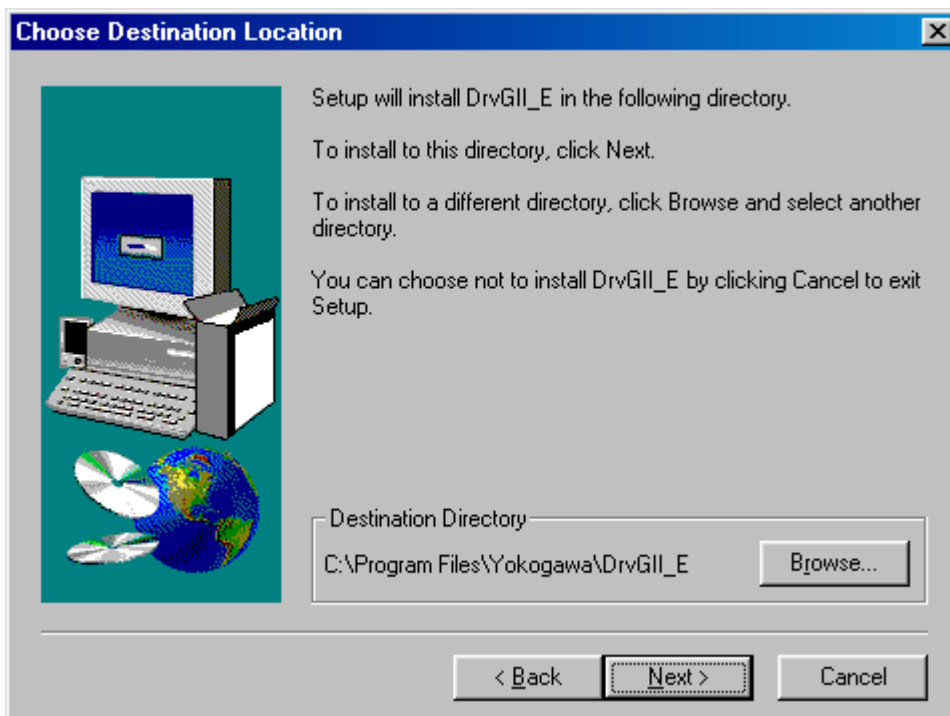

Figure 4.3.1 “Choose Destination Location” dialog box
The G2 PC utility (hereinafter referred to as the “PC utility”) runs on Windows 95, 98, 98SE, Me, WindowsNT4.0 and 2000. It can be installed via “Add/Remove Programs” under the “Control Panel” in Windows. If an older version of the PC utility is present, delete it first and then install the new version. Display the “Properties of Adding/Removing Programs” dialog box and click “*Set Up (1)*.” Then proceed according to the instructions displayed on the screen. The PC utility setup program starts up. Proceed with the setup according to the instructions on the screen. A dialog box for determining the directory in which to install the PC utility appears (see Figure 4.3.1).